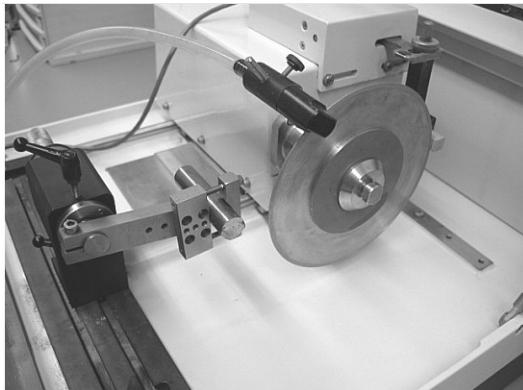

Figure 5 Positioning the specimen
- a. Position the specimen in the chuck so the cutting blade can pass by the chuck without touching the specimen (see Figure 5).